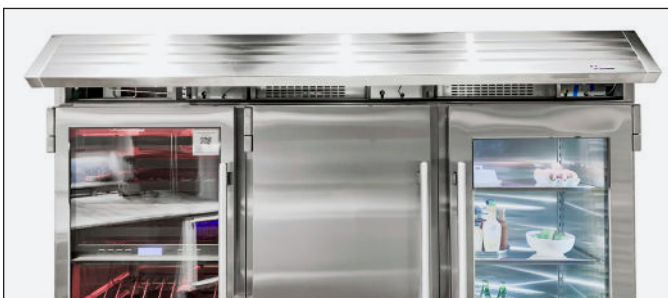

FIG. 19. Installed joining rainshield.
11. With the existing hardware, install the joining rainshield assembly. See fig. 19.